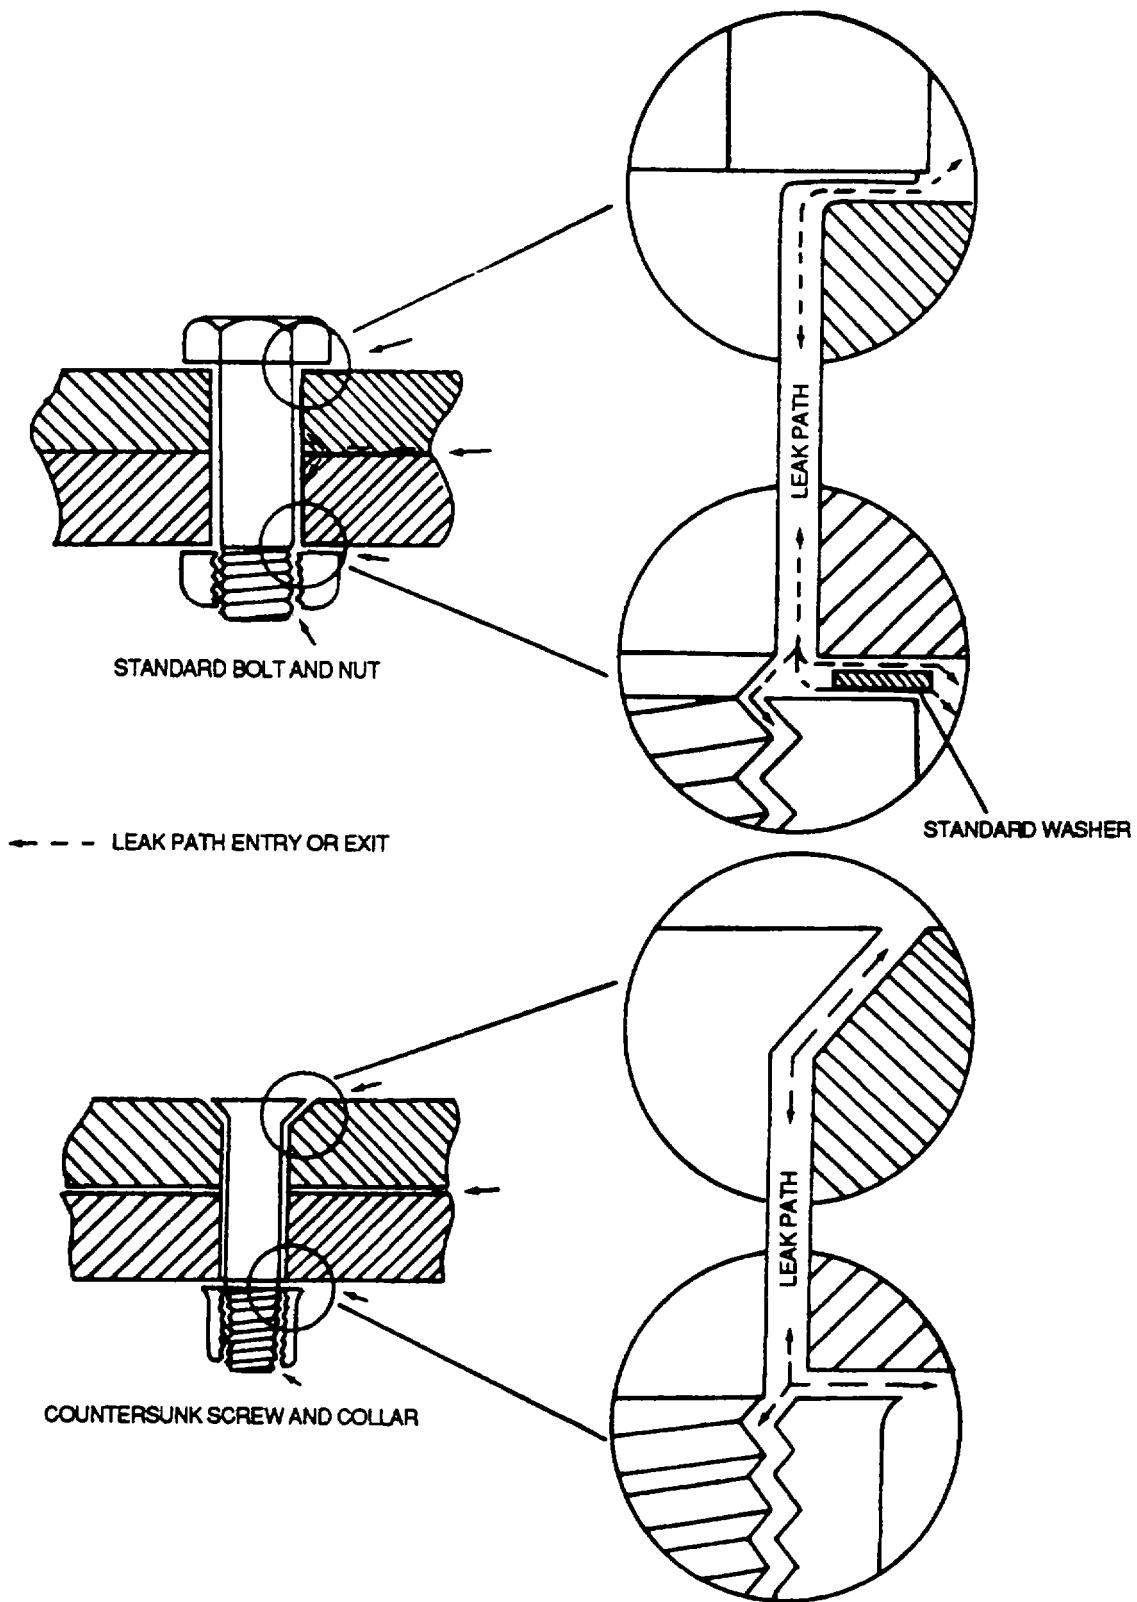

Figure 2-9. Fastener Leaks
*g. Testing Fuel Systems and Tanks/Cells for Leaks.* Leak test methods, classification of leaks, and approved testing fluids are explained below. Leak source, path, and exit should always be considered. Figures 2-9 through 2-13 show various leak paths.